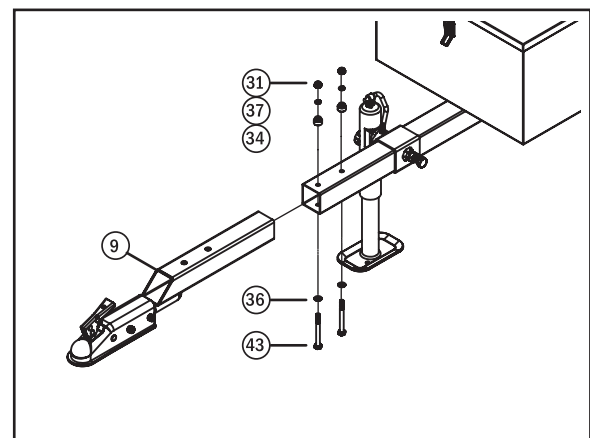

Fig. 8
Step 11: Install the Hitch Coupler. Install the Hitch Coupler Assembly (9) into the Tow Bar. Align the two holes and use the M10x90 Bolts (43), M10 Flatwashers (36), Spacers (34), M10 Lockwashers (37), and M10 Locking Nuts (31) to secure in place as shown in Fig. 8. Use a torque wrench and tighten between 30 to 35 ft-lbs (40 to 48 Nm).